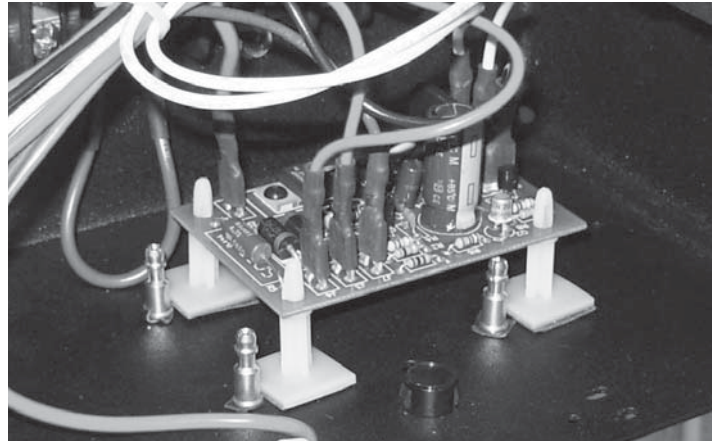

Figure 4
- a. FDC and FDOB operators reference Figure 4